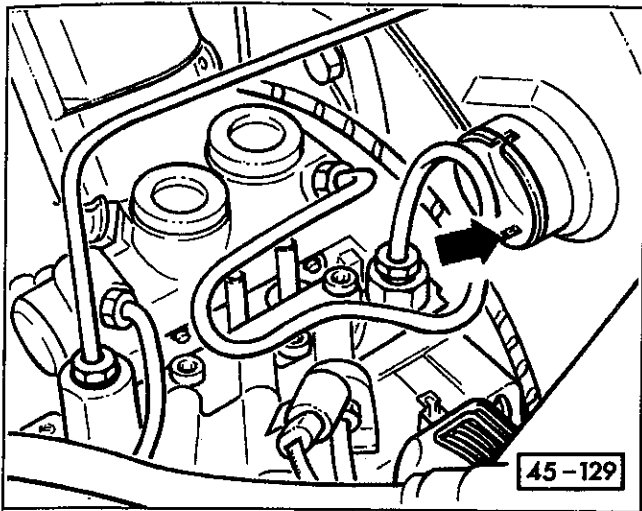

Fig. 9. Install circlip so that gap in circlip points down (arrow).
6. Install new circlip so that gap in circlip points downward. See Fig. 9.